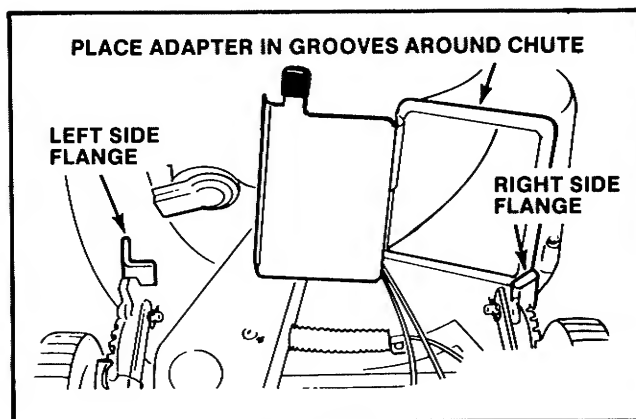

FIGURE 6
3. Place the bag adapter over the grooves in the discharge chute. Slide adapter down until the adapter bottoms in the flanges on the mower deck. (Figure 6.)